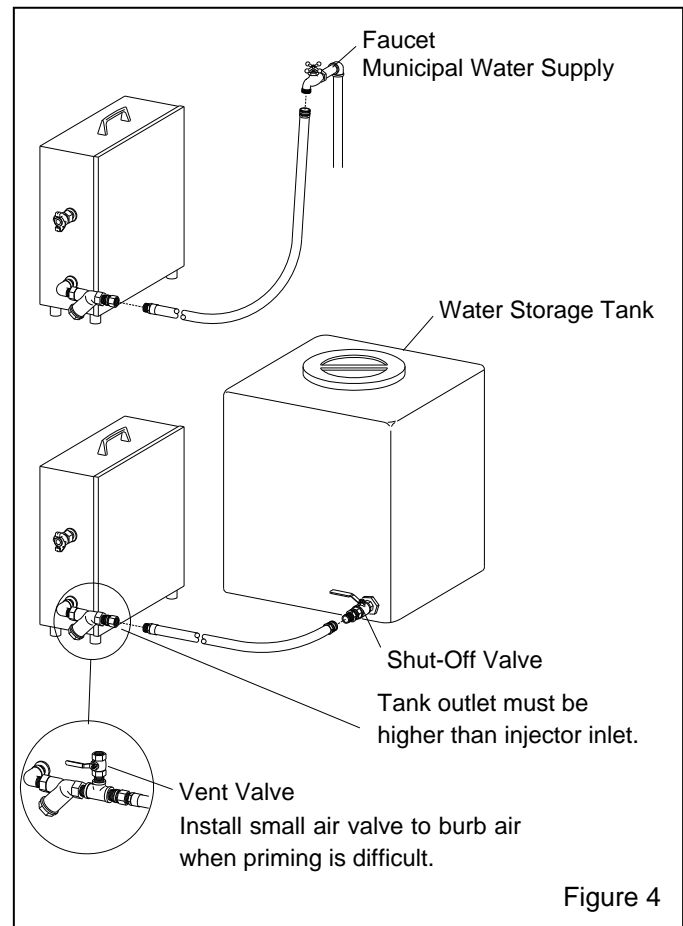

Figure 4
## 2.3 Connect Water Supply Hose, Figure 4
**2.3.1** Attach a water hose to the 3/4" garden hose swivel connector on the strainer. The water source may be from a faucet or storage tank as shown in Figure 4.
pressurized water is not available, install a small valve as noted in Section 2.3.3 and Figure 4.